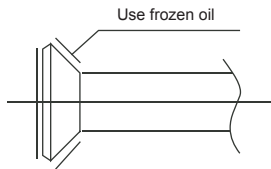

Fig.7-1
- ① Bend the tubing in proper way. Don't harm them.
- ② Daub the surfaces of the flare pipe and the joint nuts with frozen oil, and wrench it for 3~4 rounds with hands before fasten the flare nuts. (Refer to Fig.7-1)
- ③ Be sure to use two wrenches simultaneously when you connect or disconnect the pipes.